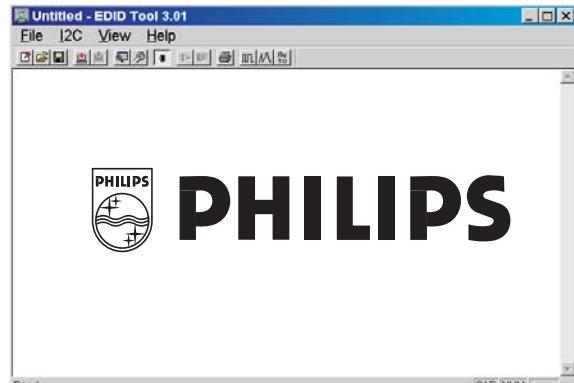
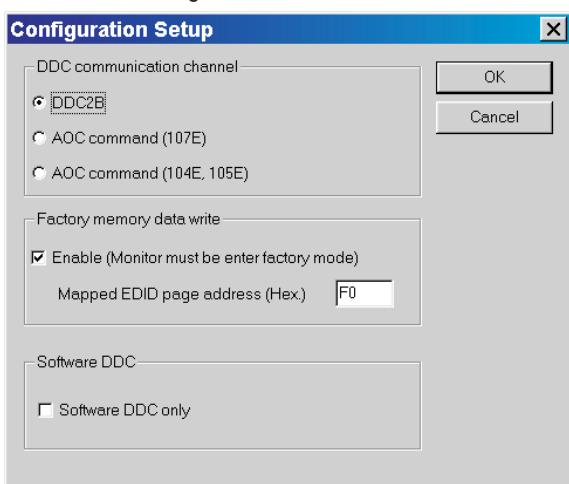

Fig. 11
Fig. 12
- 1-2 Click  icon as shown in Fig. 11 from the tool bar to bring up the "Configuration Setup" windows as shown in Fig. 12.
2. Select the DDC2B as the communication channel. Select "Enable" & fill out "F0" for Mapped EDID page address as shown in Fig. 12.